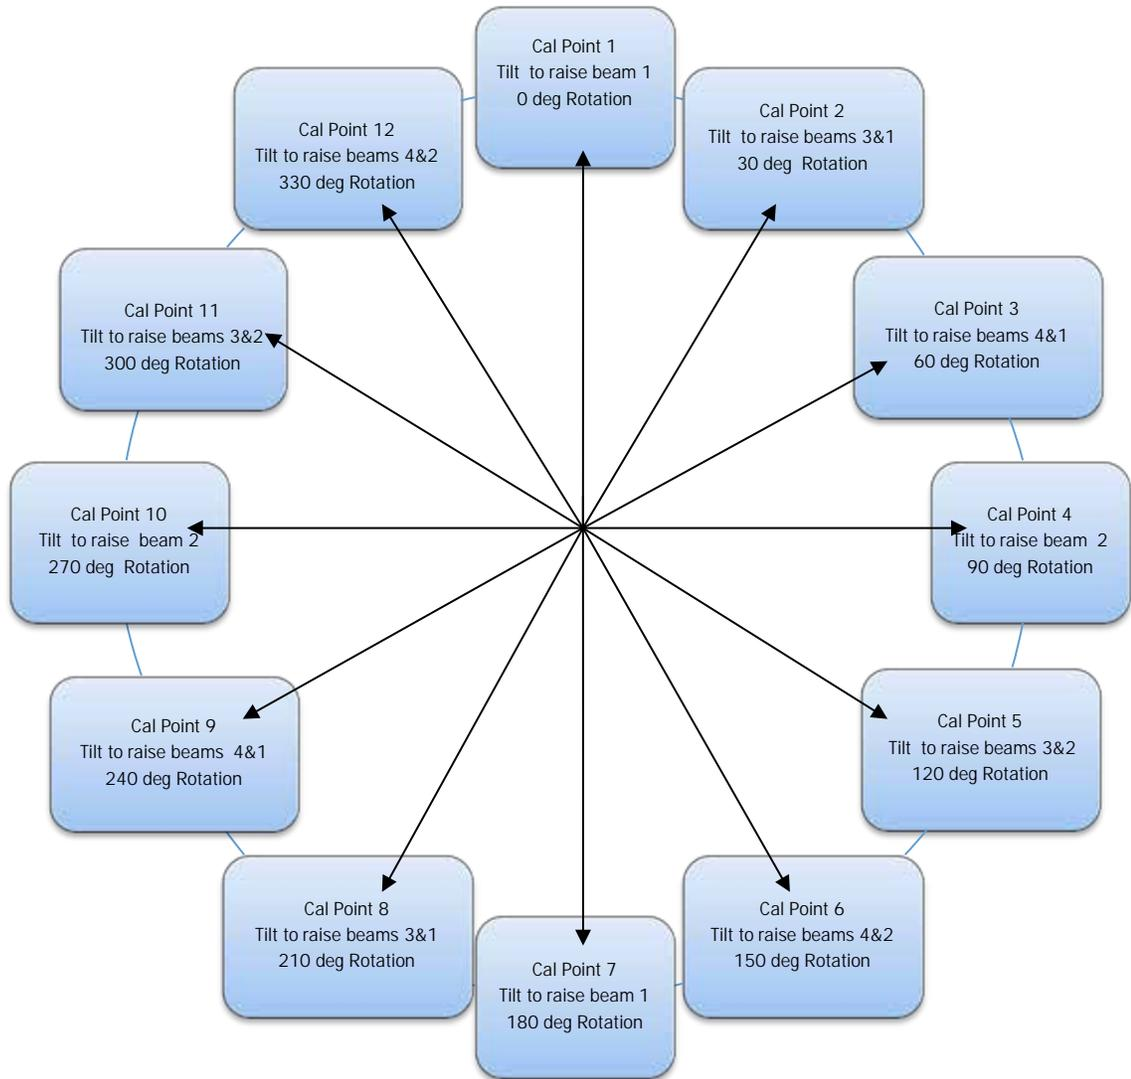

Figure 45. Standard Compass Calibration Overview
4. Orientate the ADCP so that beam 1 points at 0 degrees and tilt the ADCP approximately 30 degrees (beam 1 should be higher than beam 2) (see Figure 45). Click the **Take sample** button.